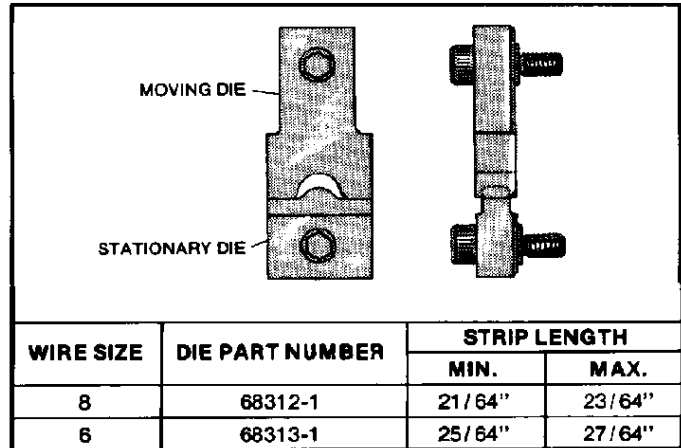

Figure 1
- Refer to the chart in Figure 1 and select the die number for the wire size being used. Wire size displayed on dies must match wire size stamped under terminal tongue.
- Select the correct wire strip length from Figure 1. Do not use wires with nicked or missing conductor strands.